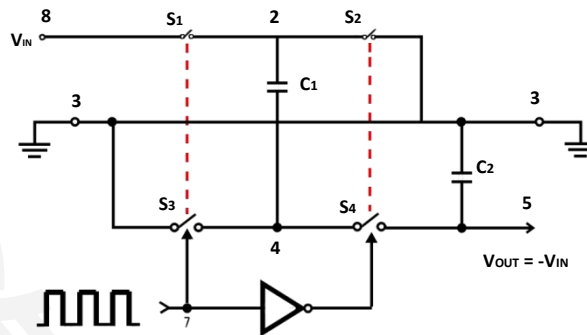
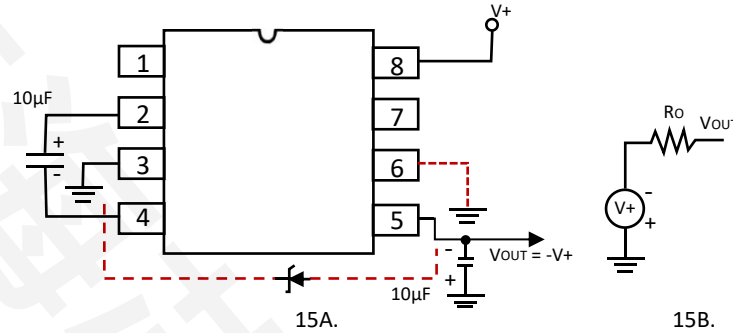
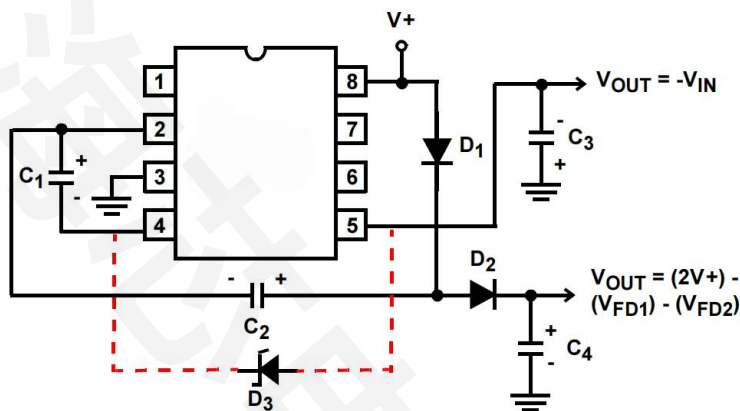
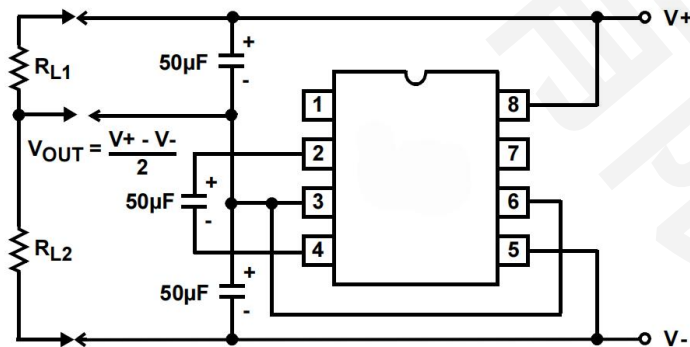

FIGURE 14. IDEALIZED NEGATIVE VOLTAGE CONVERTER
FIGURE 15. SIMPLE NEGATIVE CONVERTER AND ITS OUTPUT EQUIVALENT
FIGURE 19. COMBINED NEGATIVE VOLTAGE CONVERTER AND POSITIVE DOUBLER
FIGURE 20. SPLITTING A SUPPLY IN HALF
The ICL7660ACBA-T-HX contain all the necessary circuitry to complete a negative voltage converter, with the exception of two external capacitors, which may be inexpensive $10\mu F$ polarized electrolytic types. The mode of operation of the device may best be understood by considering Figure 14, which shows an idealized negative voltage converter. Capacitor C_1 is charged to a voltage, V_+ , for the half cycle, when switches S_1 and S_3 are closed. (Note: Switches S_2 and S_4 are open during this half cycle). During the second half cycle of operation, switches S_2 and S_4 are closed, with S_1 and S_3 open, thereby shifting capacitor C_1 to C_2 such that the voltage on C_2 is exactly V_+ , assuming ideal switches and no load on C_2 . The ICL7660ACBA-T-HX approach this ideal situation more closely than existing non-mechanical circuits.
In the ICL7660ACBA-T-HX, the four switches of Figure 14 are MOS power switches; S1 is a P-Channel device; and S2, S3 and S4 are N-Channel devices. The main difficulty with this approach is that in integrating the switches, the substrates of S3 and S4 must always remain reverse biased with respect to their sources, but not so much as to degrade their “ON” resistances. In addition, at circuit start-up, and under output short circuit conditions ($V_{OUT} = V+$), the output voltage must be sensed and the substrate bias adjusted accordingly. Failure to accomplish this would result in high power losses and probable device latch-up.
where V1 and V2 are the voltages on C1 during the pump and transfer cycles. If the impedances of C1 and C2 are relatively high at the pump frequency (see Figure 14) compared to the value of R_L , there will be a substantial difference in the voltages, V1 and V2. Therefore it is not only desirable to make C2 as large as possible to eliminate output voltage ripple, but also to employ a correspondingly large value for C1 in order to achieve maximum efficiency of operation.
The majority of applications will undoubtedly utilize the ICL7660ACBA-T-HX for generation of negative supply voltages. Figure 15 shows typical connections to provide a negative supply where a positive supply of +1.5V to +12V is available. Keep in mind that pin 6 (LV) is tied to the supply negative (GND) for supply voltage below 3.5V.
The output characteristics of the circuit in Figure 15 can be approximated by an ideal voltage source in series with a resistance as shown in Figure 15B. The voltage source has a value of $-(V+)$. The output impedance (R_O) is a function of the ON resistance of the internal MOS switches (shown in Figure 14), the switching frequency, the value of C_1 and C_2 , and the ESR (equivalent series resistance) of C_1 and C_2 . A good first order approximation for R_O is shown in Equation 2:
Figure 19 combines the functions shown in Figure 15 and Figure 18 to provide negative voltage conversion and positive voltage doubling simultaneously. This approach would be suitable, for example, for generating +9V and -5V from an existing +5V supply. In this instance, capacitors C1 and C3 perform the pump and reservoir functions, respectively, for negative voltage generation, while capacitors C2 and C4 are pump and reservoir, respectively, for the doubled positive voltage. There is a penalty in this configuration which combines both functions, however, in that the source impedances of the generated supplies will be somewhat higher, due to the finite impedance of the common charge pump driver at pin 2 of the device.
The bidirectional characteristics can also be used to split a high supply in half, as shown in Figure 20. The combined load will be evenly shared between the two sides, and a high value resistor to the LV pin ensures start-up. Because the switches share the load in parallel, the output impedance is much lower than in the standard circuits, and higher currents can be drawn from the device. By using this circuit, and then the circuit of Figure 15, +15V can be converted, via +7.5 and -7.5, to a nominal -15V, although with rather high series output resistance ($\sim 250\Omega$).